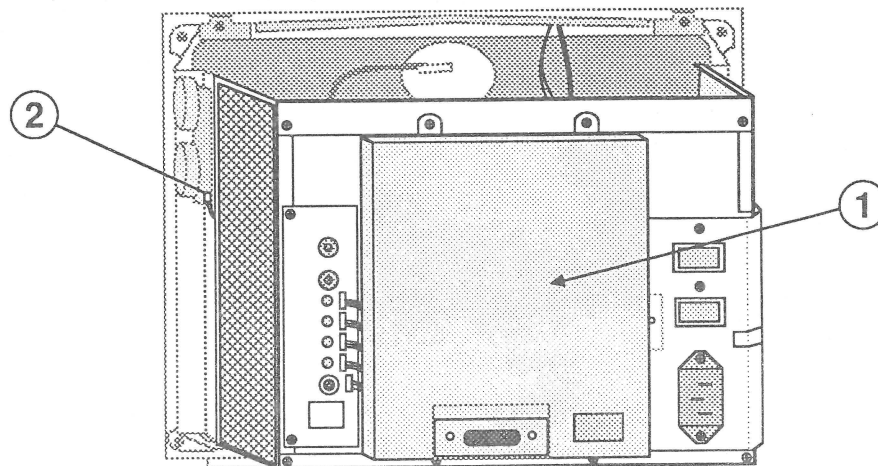

FIGURE 39
5. Replace the metal video board shield (Figure 39, #1). It simply slides on and snaps into place.
6. Reconnect J-8 (Figure 39, #2) to contrast control board "J."